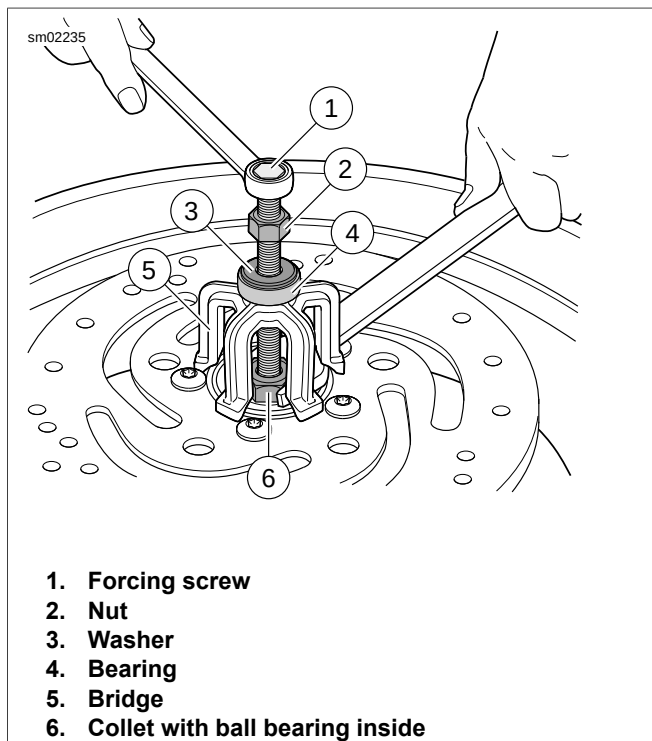
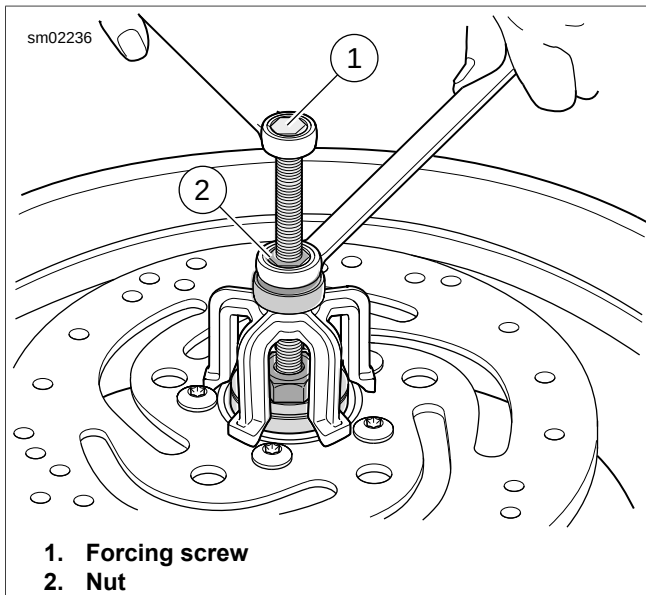

Figure 2-24. Removal Tool
Figure 2-26. Remove Bearing
3. See Figure 2-24. Obtain WHEEL BEARING INSTALLER/REMOVER (Part No. HD-44060C) and assemble using 25MM BEARING REMOVER (ABS) (Part No. HD-44060-11A) or 25MM BEARING REMOVER (NON-ABS) (Part No. HD-44060-10A) (6).
- a. Sparingly apply GRAPHITE LUBRICANT to forcing screw (1) to maintain smooth operation and prolong service life.
- b. Install nut (2), washer (3) and bearing (4) on screw. Insert assembly through hole in bridge (5).
- c. Drop ball bearing inside 25 mm collet (6). Fasten collet and ball bearing to forcing screw.
5. See Figure 2-26. When expanded collet has gripped bearing edges, hold end of forcing screw and turn the nut to remove spacer from wheel.